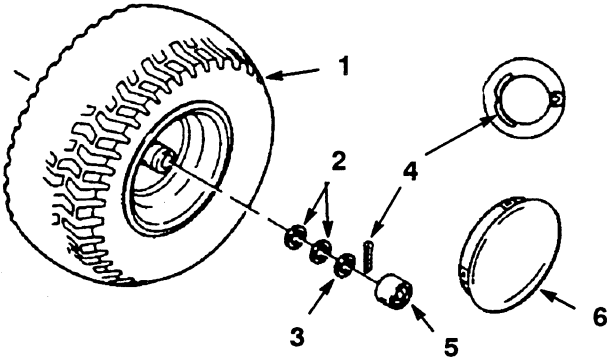

Figure 1
1. Slide wheel onto axle with valve stem in (Fig. 1).
2. Wheel end play should be 0-.015" (0-.4 mm). Use shim washers (as required) and large OD flat washer for spacing on the axle. Insert cotter pin through the axle and bend the ends of the pin open (Fig. 1).
3. Push the dust cover (Fig. 1) onto the end of the axle so it snaps over washer.